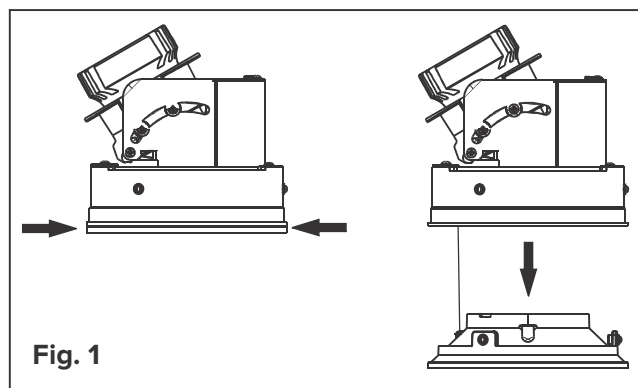

Fig. 1
Step 1: Pull downwards on the trim face plate to remove it from the trim body **Fig. 1**.